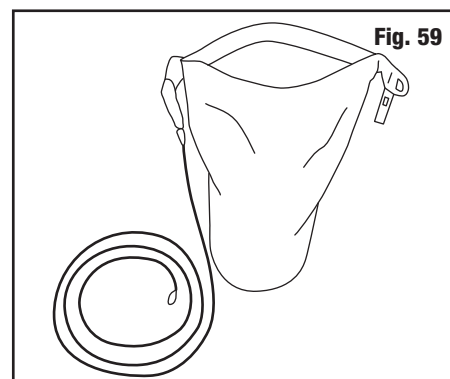

Fig. 59
4. Open bag by unclipping and unrolling bag (Fig. 59).